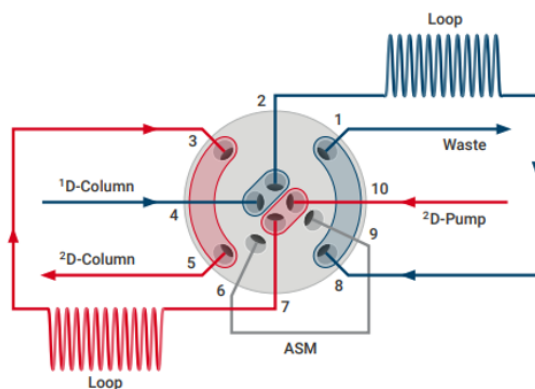

Figure 47: Schematic representation of the Bio 2D-LC ASM Valve without MHC in concurrent flow
- Concurrent direction for the Bio 2D-LC ASM Valve with Single Heart Cut Configuration, see Figure 47 on page 100.
- Countercurrent for the Bio 2D-LC ASM Valve with a Multiple Heart-Cutting Configuration, see Figure 47 on page 100.